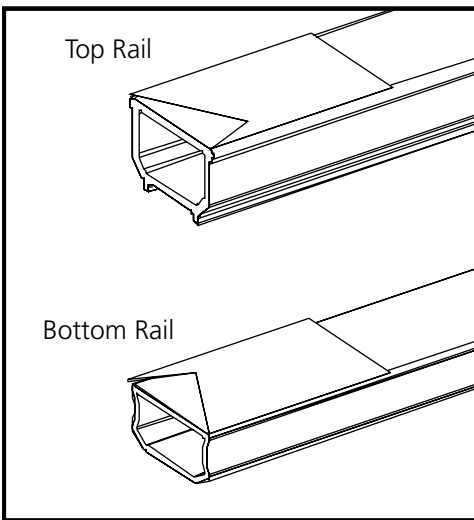

Figure 30
3. Position the template on the non-routed flat side of the top rail. Mark the proper cutting angle (Figure 30).
4. Position the template on the non-routed bottom surface of the bottom rail (Figure 30). Mark the proper cutting angle. Template will be reversed from top rail.